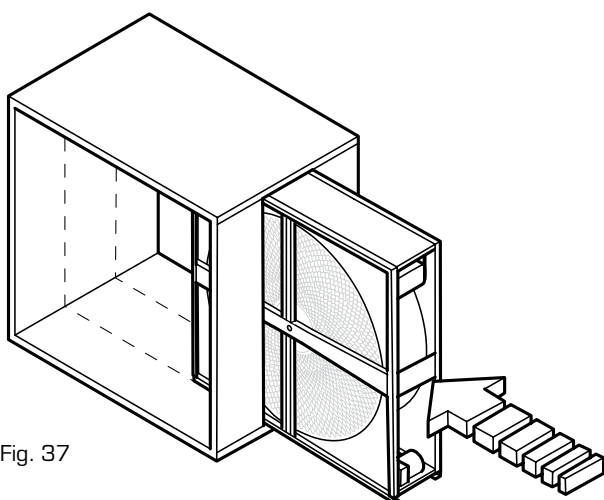

Fig. 37
The PUR (D) rotor cassette is designed for insertion into an appropriate Air Handling Unit casing (Fig.37), or the cassette can be integrated into the Air Handling Unit already from the beginning.